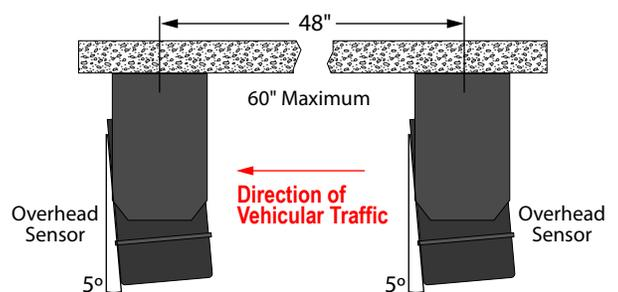

Figure 4-1. Overhead Sensor Distance and Toeing
- Mount sensors parallel to one another and in pairs over centerline of traffic; 48" apart (60" maximum) and 7'6" above finished floor (9'0" maximum). (refer to Figure 4-1)
- Position each Sensor at a 5° (degree) toe-out from center toward the line of travel to avoid scanning interference from standing water, when it occurs. (refer to Figure 4-1)